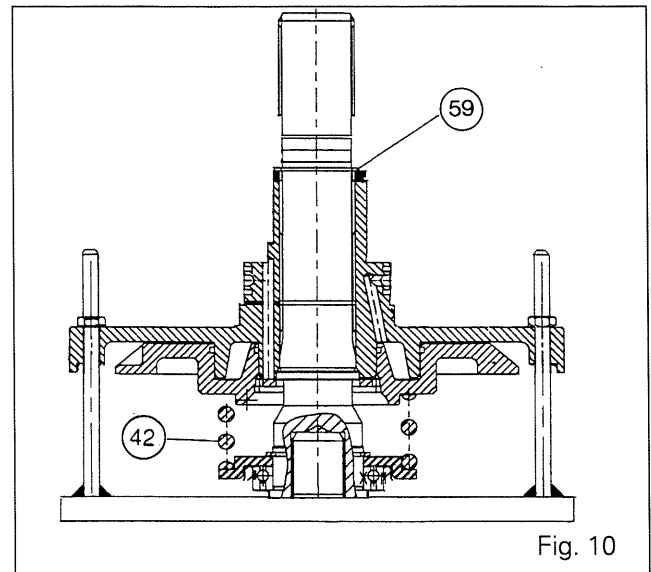

Fig. 10
57. Place the clutch in the vertical position, with the cover (39) resting on a suitable support.
58. Take off circlip (58). Remove bush /3\, bushes (2) and O-ring (1).
59. Take off circlip (56). Remove the pump cover (11) and the bearing (55).
60. Extract the lubricating pump (53) from the pump body (12). Separate the pump body from the clutch housing (23).
62. If necessary, extract bush /51\ and remove the 1.5-bar valve (68).
63. Separate the clutch housing (23) from the cover (39). Remove the discs (44) and plates (45).
64. Remove the hub (37).
66. Using a suitable fixture (see section I), compress the spring (42). Remove the circlip (59) (Fig. 10). Remove the locking ring (4). Decompress the spring.
67. Separate the clutch housing (23) from the shaft (7). Remove the spring.
68. Remove the piston (46). If necessary, pull the bearing (50) out.
69. If necessary, remove the circlip (43), the support (41) and the bearing /40\.